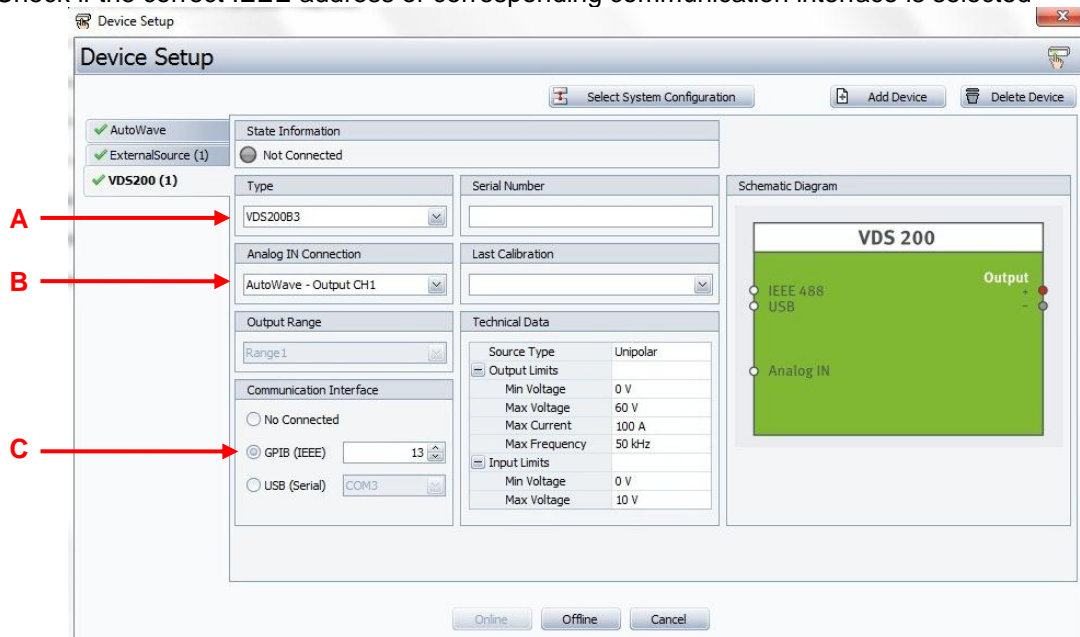

Figure 2.4
Step2: Configuration VDS200x (see figure 2.4 below)